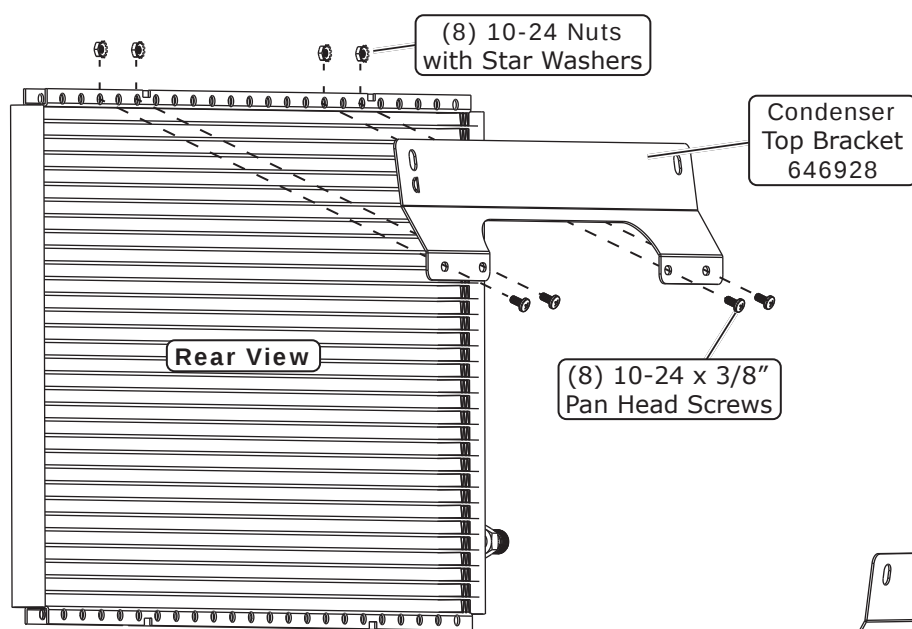

Figure 1
1. On a workbench, install the condenser top bracket onto the back of the condenser using (4) 10-24 x 3/8" pan head screws and (4) 10-24 nuts with star washers (See Figure 1, below). **NOTE: The condenser top bracket mounts to the outside of the flange through the 3rd and 5th holes from the left and the 6th and 8th holes from the right.**
1. Secure the condenser top bracket into OEM holes on the engine side of the core support using (2) 5/16-18 x 3/4" self-tapping screws (See Photos 1 and 2, below).
2. Secure the condenser driver and passenger side brackets to the front side of the core support using (2) 1/4-20 x 3/4" hex bolts, (4) 1/4" flat washers and (2) 1/4-20 nuts with star washers (See Photos 3 and 4, and Figure 1, below). **NOTE: The condenser top, driver and passenger side brackets are slotted for adjustment. When installing, ensure that the holes on the core support are aligned with the condenser bracket holes. Adjust the brackets up, down and sideways as necessary.**